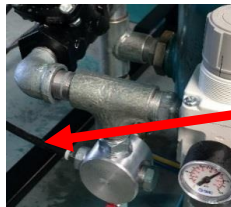

FIGURE 19
- 3.8.3 Black tubing – (For units with drum dust collector A201122-3) – Connect one end to the second port on the supply side of the blast pot piping (see figure 19) and the other end to the mini ball valve located on the top of the dust collector lid (see figure 20)